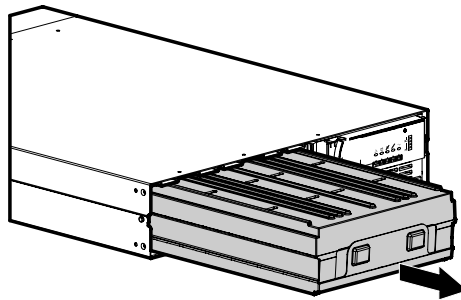

Figure 34. Removing the Battery
3. Pull the battery out onto a flat, stable surface (see Figure 34). See "Recycling the Used Battery or UPS" on page 53 for proper disposal.